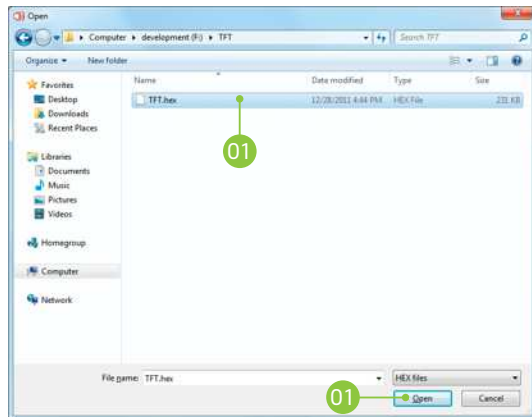

Figure 3-5: Selecting HEX
- 01 Click the **Browse for HEX** button and from a pop-up window (Figure 3.5) choose the .HEX file which will be uploaded to MCU memory.